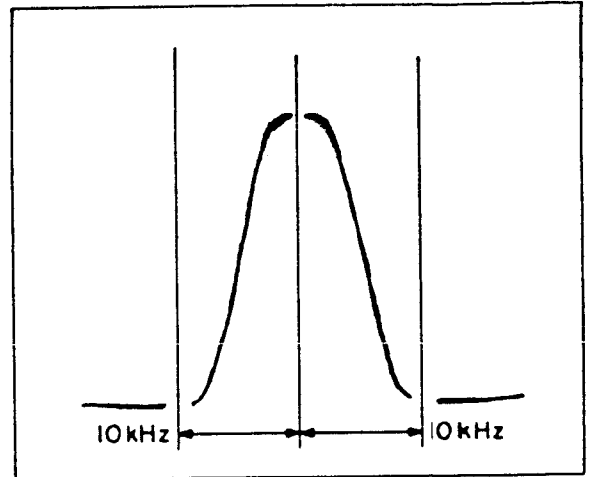

Figure 15.
(5) Disconnect scope input and ground from AM RF board. Connect scope input to Test Point 306 (pin 3Q on AM/FM IF, MPX board). Connect scope ground to pin 3R.
(6) Align top and bottom cores of Z301 and Z303 (on AM/FM IF, MPX board) for maximum gain and symmetry (see Figure 15).